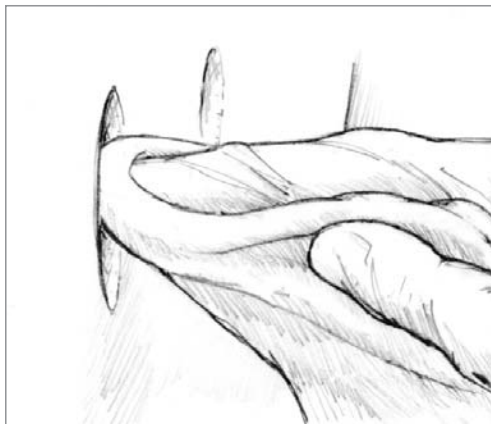

Figure 4-1 Wipe the cavity clean with alcohol and repeat until the laminate is dry to the touch.
1. Wipe the cavity clean with an alcohol prep pad or paper towels that have been soaked in rubbing (isopropyl) alcohol (*Figure 4-1*). Be generous with the alcohol and be sure to change towels frequently so the contaminants are removed rather than spread. Repeat the alcohol wipe/allow to dry process until the laminate is dry to the touch. It is particularly important to repeat the alcohol-wipe process on blisters that were fluid filled at the time they were ground away.